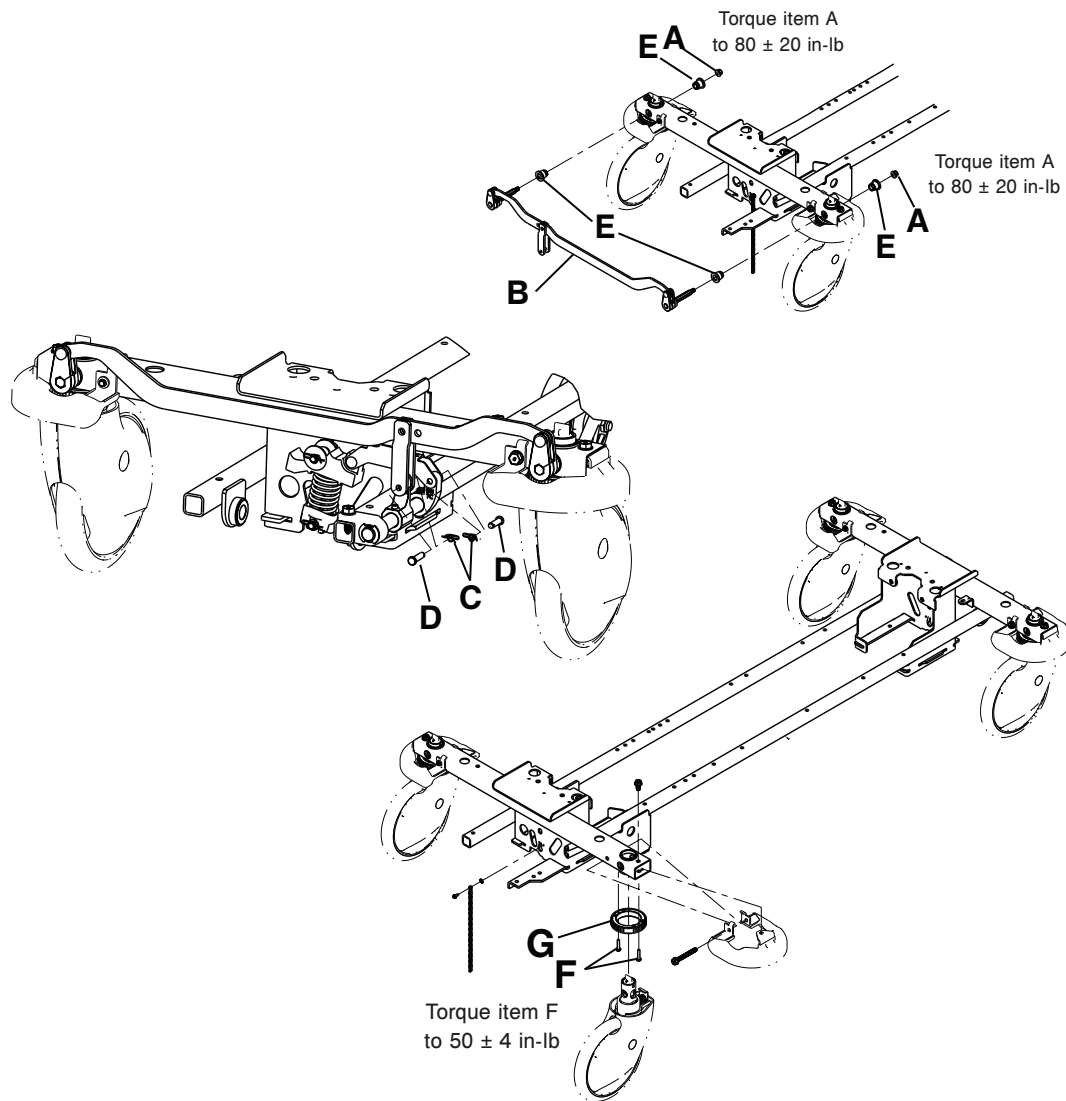

Figure 3 – Caster and brake assembly components
5. Using a 1/2" socket with a 3/8" drive extension and a 3/8" drive ratchet, remove the two Nylock flange hex nuts (A) (one on each side) that secure the brake link assembly (B) to the casters (Figure 3).
6. Using needle nose pliers, remove the ring cotter (C) and clevis pin (D) from the brake rod activator (Figure 3).
8. Remove the brake link assembly (B). Pull outward with equal force on the assembly (Figure 3).
11. Reverse steps to reinstall the remaining components. Use a 3/8" drive torque wrench (in-lb) to torque the two Nylock flange hex nuts (A) that secure the brake link assembly (B) to the casters to 80 ± 20 in-lb (Figure 3).
6. Using needle nose pliers, remove the rue ring cotter (C) and clevis pin (D) from the brake rod activator.
8. Remove the brake link assembly (B). Pull outward with equal force on the assembly. Save the brake link assembly.
10. Using a 5/16" socket with a 3/8" drive extension and a 3/8" drive ratchet, remove the two hex washer head screws (F) that secure the brake swivel lock ring to the base frame. Remove and discard the brake swivel lock ring.
8. Remove the brake link assembly (B). Pull outward with equal force on the assembly.
9. Reverse steps to reinstall. Using a 3/8" drive torque wrench (in-lb), torque the two Nylock flange hex nuts (A) that secure the brake link assembly to the casters to 80 ± 20 in-lb.